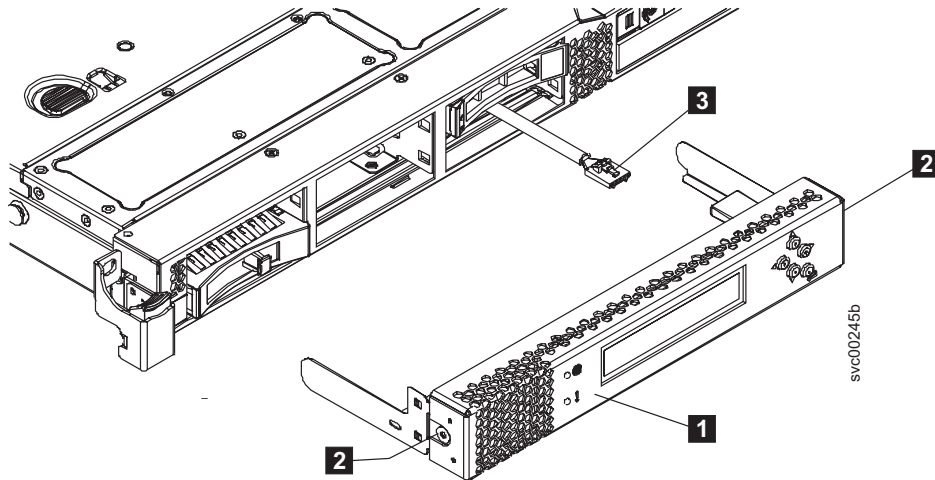

Figure 78. SAN Volume Controller 2145-CF8 service controller
9. If you are intending to replace the service controller FRU, detach the USB cable, shown by **3** in Figure 78 on page 78, from the service controller.